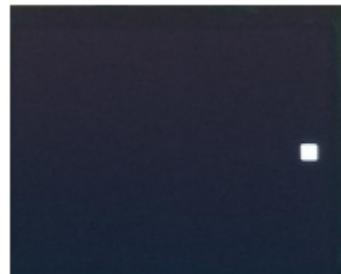

fig 1-1
1. When power is applied to the towel warmer, a small square will appear on the LCD screen (fig 1-1)